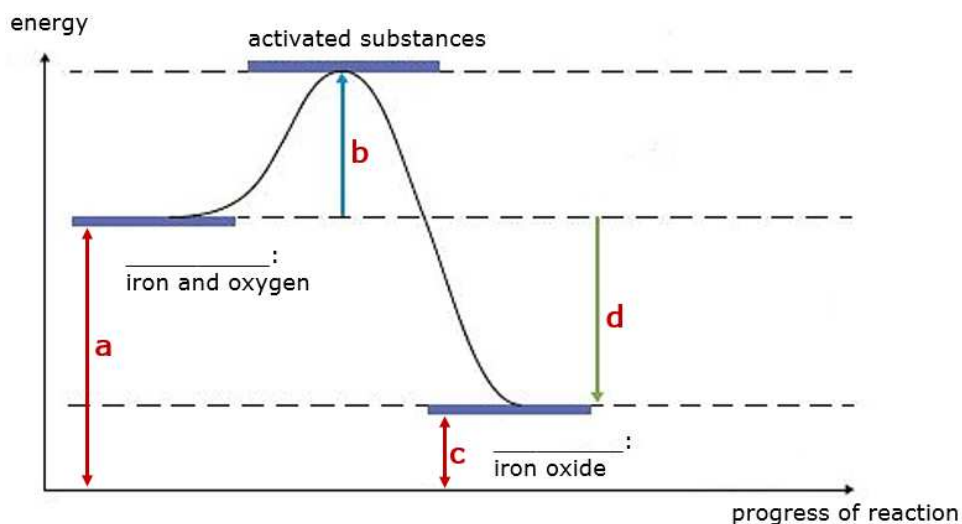

Fig. 1 Energy scheme for the formation of iron oxide
3. In Fig. 1, there is the energy diagram for the exothermic reaction of the formation of iron oxide: Add the words reactants and product to the diagram. Then answer these questions: